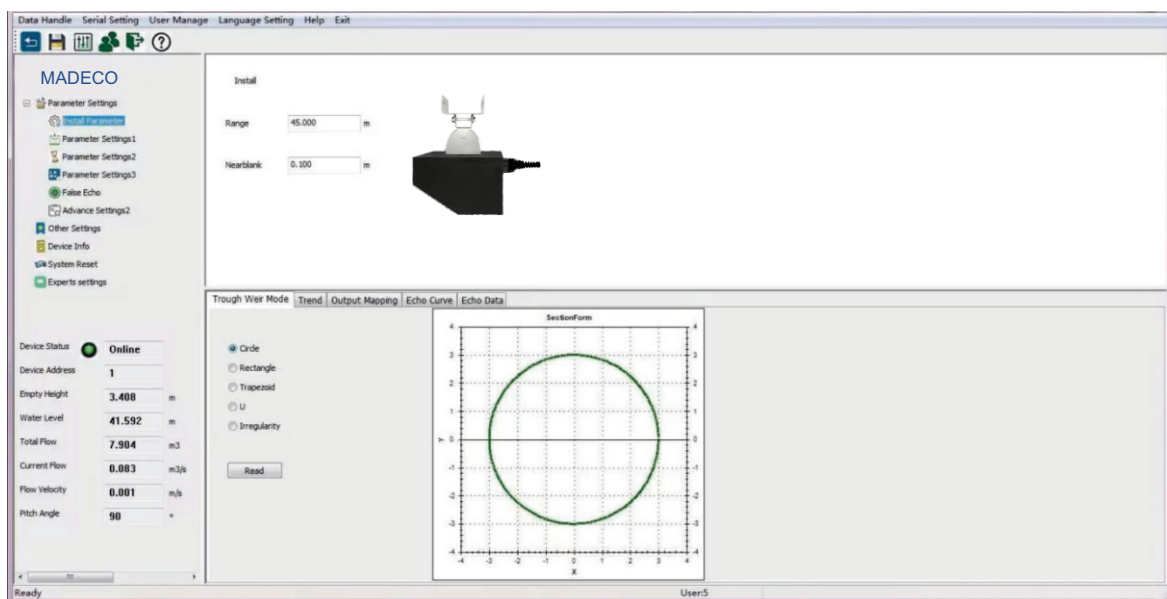
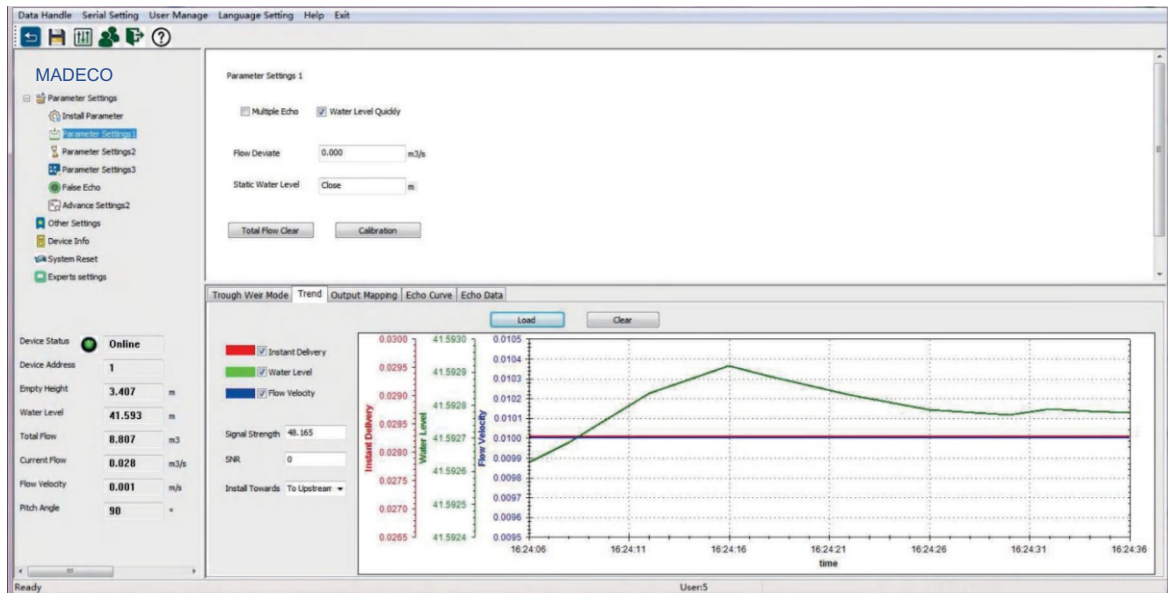
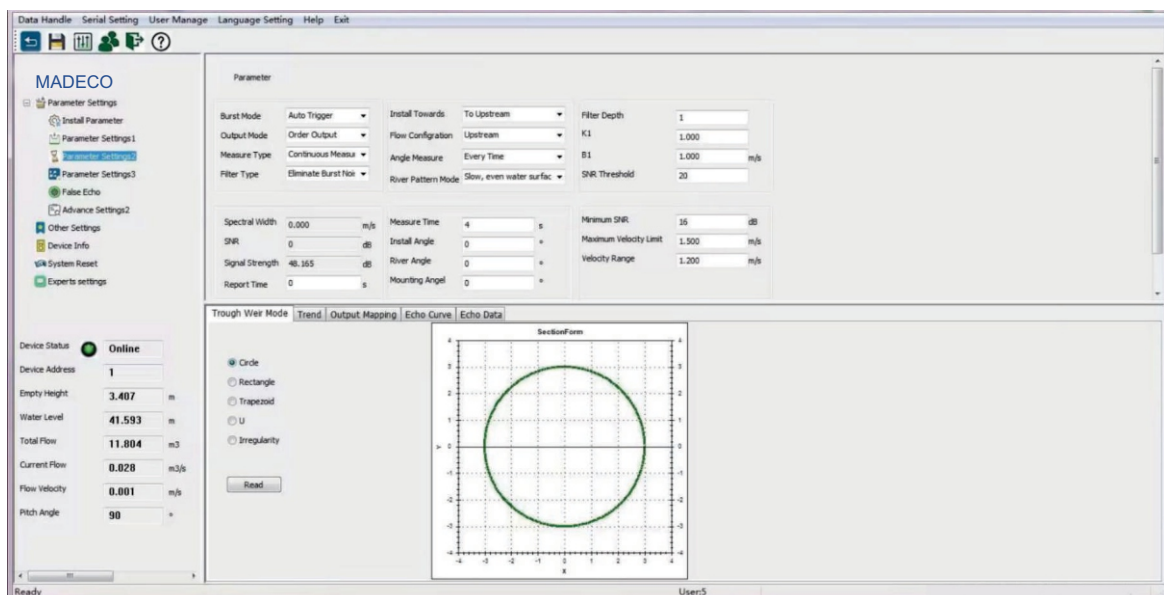

Figure11 Installation parameters and slot and weir modes
Figure12 Parameter setting 1 and material trend
Figure13 Parameter setting 2
Figure 11 shows that the radar flowmeter can be installed both upstream and downstream of the river, and it is generally recommended to install upstream (installation in the upstream: (1). not affected by fixed buildings; (2). the impact of rainfall on it will be relatively small); Figure 12 and Figure 13 show that the water surface of the river detected by the radar flowmeter should be stable. If the width of the river and the flow direction change, resulting in an unstable water surface velocity, it will affect the measurement of the river. Among them, Figure 12 reflects that when the direction of the river changes, the radar flowmeter should point to the direction where the river has not changed; Figure 13 reflects that when the width of the river changes, the radar flowmeter should point to the direction where the river width does not change significantly. direction of change. Therefore, in order to avoid bending and width changes facing the river, downstream installation can be selected depending on the specific situation. This is what needs to be paid attention to during engineering installation.